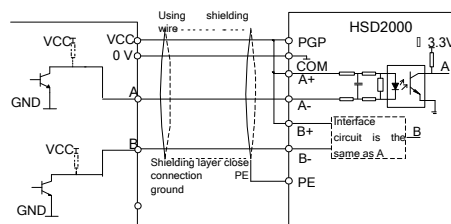

Figure 4-25: Collector Open Circuit Signal PG Wiring Schematic Diagram
1. PG output signal shall be collector open circuit signal. Connection with interface board terminal is shown as figure 4-25: (dotted line in figure is voltage output encoder)